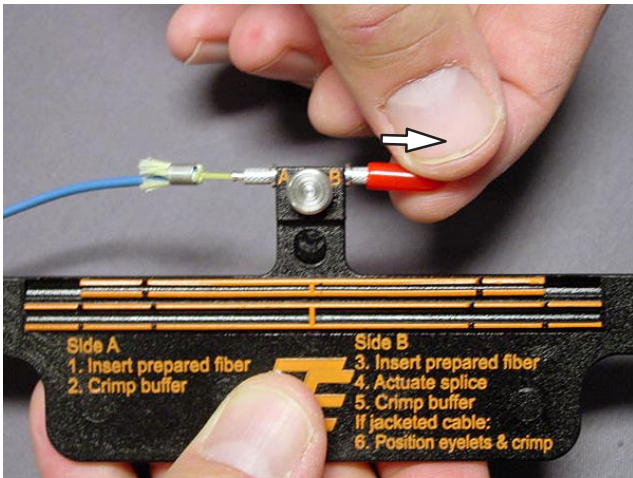

Figure 76
4. Remove the cap from the splice on side B. See Figure 76.